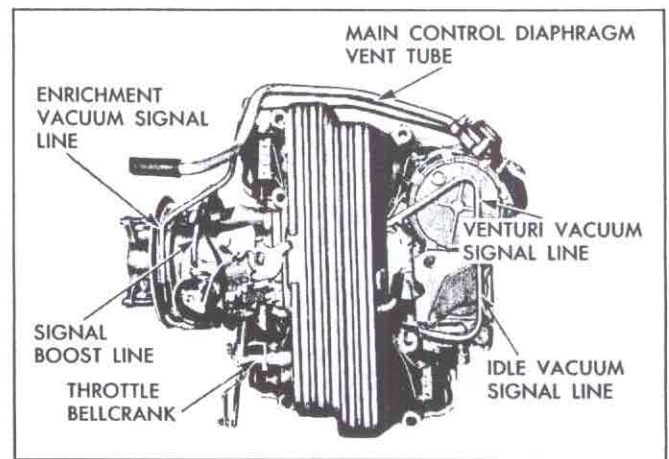

Fig. 121—Signal and Fuel Meter Vent Lines
Signal, Fuel and Vent Line (figs. 121 and 122)
1. Remove enrichment vacuum signal line by disconnecting the rubber sleeve at the cold enrichment housing on the air meter and at the enrichment diaphragm on the fuel meter (fig. 121).
6. Remove the signal boost line (fig. 121).